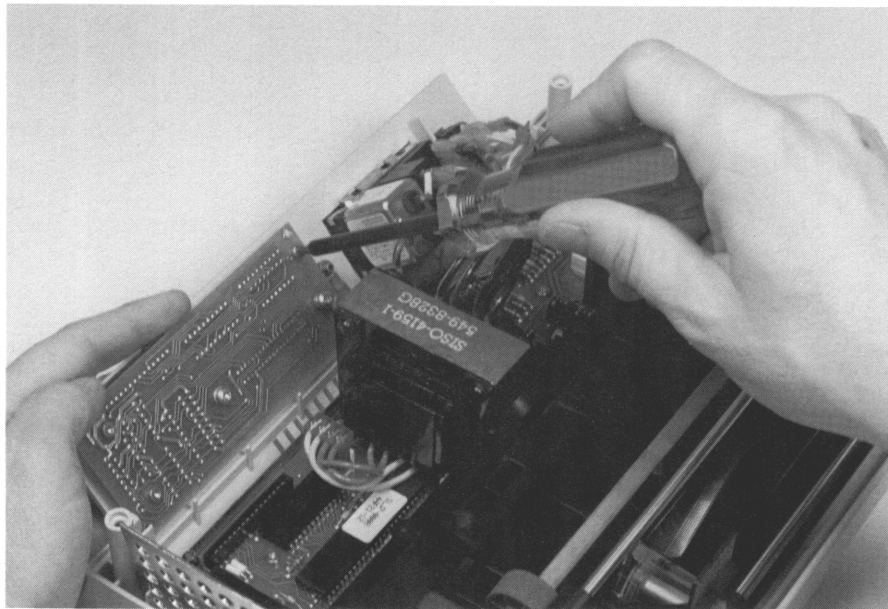

Figure 3-4, Parallel I/O Removal
4. Remove the four T9 screws that hold the board to the rear panel. See Figure 3-4.